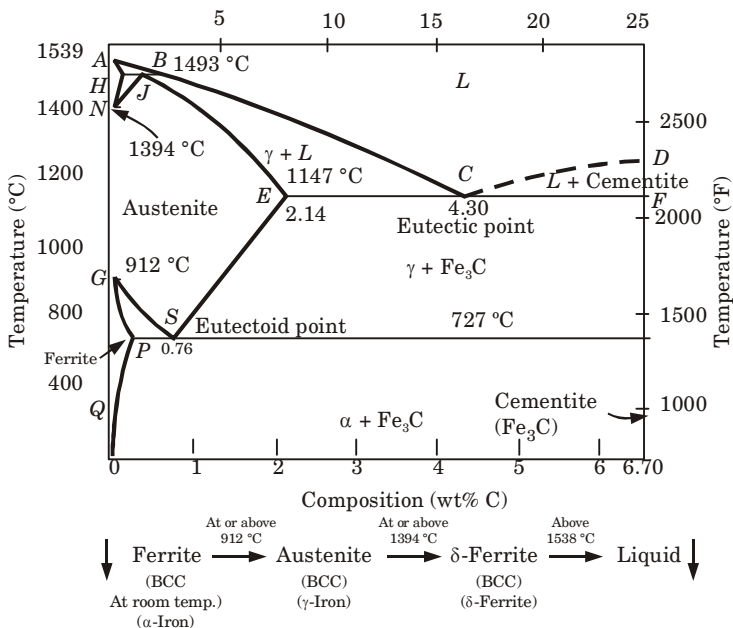

Fig. 3. Fe-C phase diagram.
1. In (Fig. 3), Fe-C phase diagram is shown. Carbon is an interstitial impurity in iron and soluble in iron.
B. Feature of the Fe-C Diagram : The salient features of the equilibrium diagram (Fig. 3) are as follows :